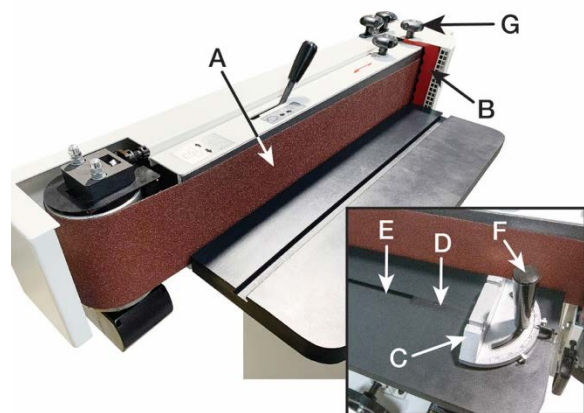

Figure 10-3
Refer to Figure 10-3:
For vertical sanding, the platen (A) is locked in the vertical position as shown in Figure 10-3. The backstop (B) and/or the miter gauge (C) may be used.